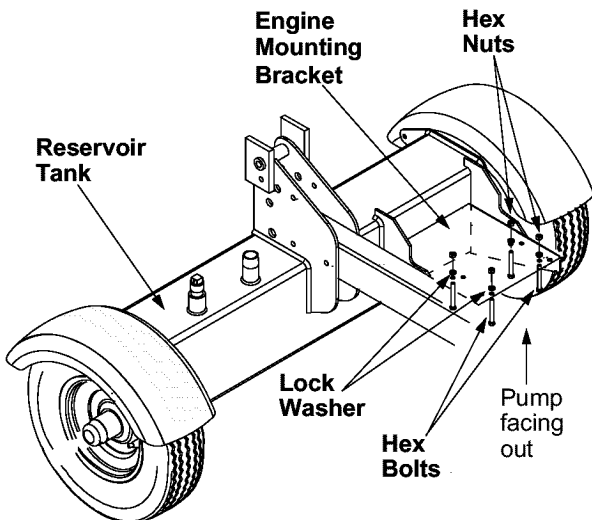

Figure 8
- Secure the engine and pump assembly with four hex bolts, lock washers, and hex nuts packed with the Operator's Manual. See Figure 8. Secure with lock washers and hex nuts. Tighten to 14 ft-lbs.